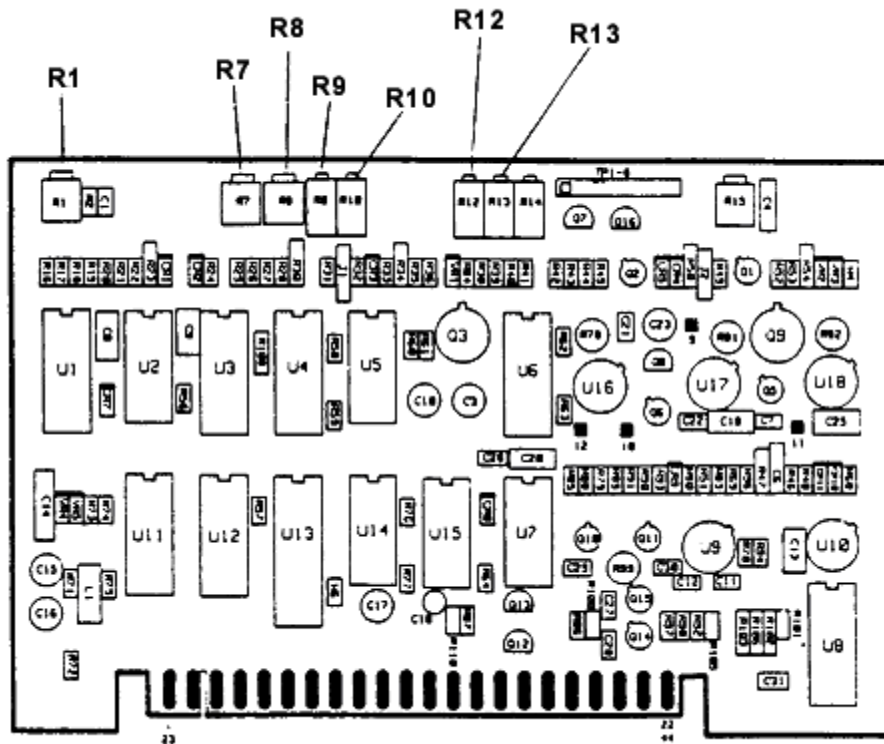
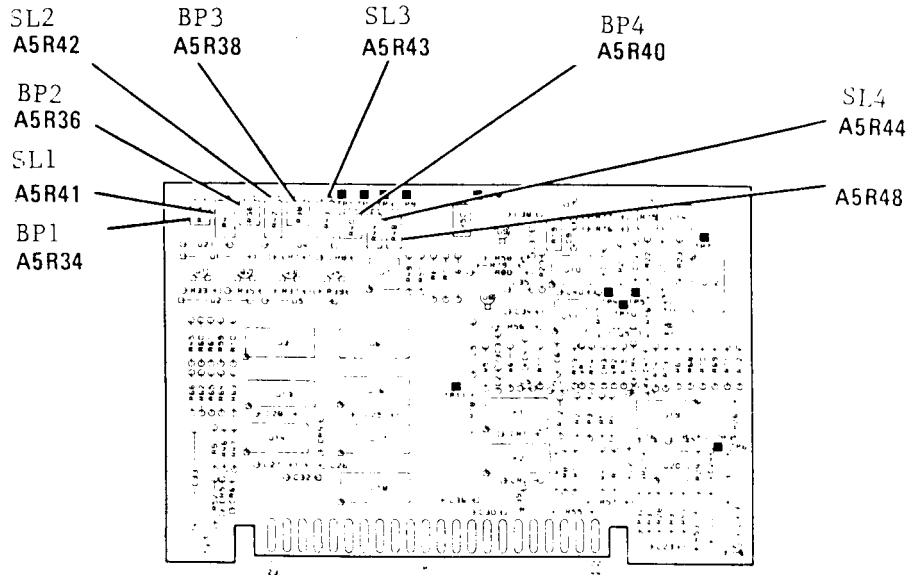

Figure 11. A4 board adjustment locations.
Figure 12. A5 board adjustment locations.
(3) Connect power meter to **RF OUTPUT**. Record power meter indication.
(4) Press **RECALL** key and enter data **2** on keyboard. Adjust A4R1 (fig. 11) for power meter indication of equal difference from -5 dBm as the value recorded in (3) above but in the opposite direction (example: if (3) above is -4.9 dBm then A4R1 is adjusted for -5.1 dBm) (R).
(5) Press **RECALL** key and enter data 1 on keyboard. Adjust A4R13 (fig. 11) for power meter indication of -5.0 dBm (R).
(6) Press **RECALL** key and enter data 4 on keyboard. Record power meter indication.
(7) Press **RECALL** key and enter data 3 on keyboard. Adjust A4R9 (fig. 11) for power meter indication of equal difference from +3 dBm as the value recorded in (6) above but in the opposite direction (R).
(8) Disconnect power meter from **RF OUTPUT**. Connect 10 dB attenuator to **RF OUTPUT** and connect power meter to attenuator.
(9) Press **RECALL** key and enter data 5 on keyboard. Add power meter indication to exact value of attenuator (at 50 MHz) and record.
(10) Press **RECALL** key and enter data 6 on keyboard. Adjust A4R7 (fig. 11) for power meter indication plus attenuator value (at 2.2 GHz) of equal difference from +10 dBm as the value recorded in (9) above but in the opposite direction (R).
(11) Press **RECALL** key and enter data 2 on keyboard. Record power meter indication.
(12) Adjust **FREQUENCY VERNIER** control to tune TI output frequency to the start of band 2 (approximately 2.5 GHz).
- (13) Adjust A4R12 (fig. 11) for power meter indication equal to value recorded in (11) above (R).
- (14) Press **RECALL** key and enter data of **3** on keyboard. Record power meter indication.
- (15) Repeat (12) above.
- (16) Adjust A4R10 (fig. 11) for power meter indication equal to value recorded in (14) above (R).
- (17) Press **RECALL** key and enter data **6** on keyboard. Record power meter indication.
- (18) Repeat (12) above.
- (19) Adjust A4R8 (fig. 11) for power meter indication equal to value recorded in (17) above (R).
- (20) Repeat (1) through (19) above until no further adjustment is required.
- (21) Connect **SWEEP OUTPUT** to oscilloscope **CH2** input.
- (22) Connect semiconductor device to **RF OUTPUT** and connect oscilloscope **CH1** input to semiconductor device.
- (23) Press function keys and enter corresponding data on keyboard as listed in (a) through (e) below:
- (e) **RF BLANK (ON)**.
- (24) Set oscilloscope for an X verses Y operation and adjust controls as necessary to display the TI output.
- (25) Set A5R34, A5R36, A5R38, and A5R40 (fig. 12) fully cw.
- (26) Adjust A5R48 (fig. 12) for best overall trace flatness as displayed on oscilloscope (R).
- (27) Adjust BP (breakpoint) and SL (slope) adjustments listed in table 8 for best overall trace flatness as displayed on oscilloscope.
BP adjustment (fig. 12)	SL adjustments (fig. 12) (R)